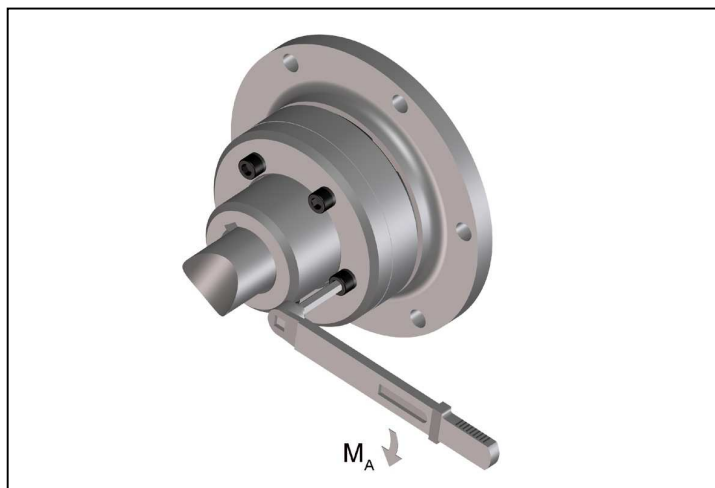

Fig. 14
- Tighten the claw ring screws to the tightening torque M_A specified in table 11 (Fig. 14).